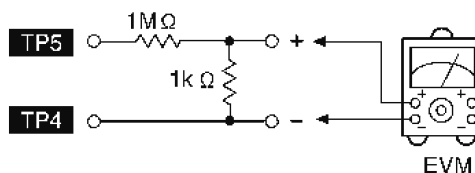

Fig. 2
- Please replace both azimuth adjustment screw and springs simultaneously when readjusting the head azimuth. (shown in Fig. 2) Even if you wish to readjust the head azimuth without replacing the screws and springs, a fine adjustment to the azimuth screw and spring.
- Fig. 2